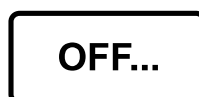

Fig. 7
(B) The LCD shows OFF... during turn off. Fig. 7